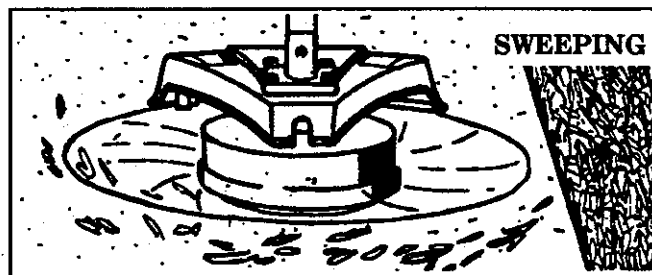

Figure 20
4. **SWEEPING**- Figure 20 . The fanning action of the rotating line can be used for a quick and easy clean up. Keep the line parallel to and above the surfaces being swept and move the tool from side to side.